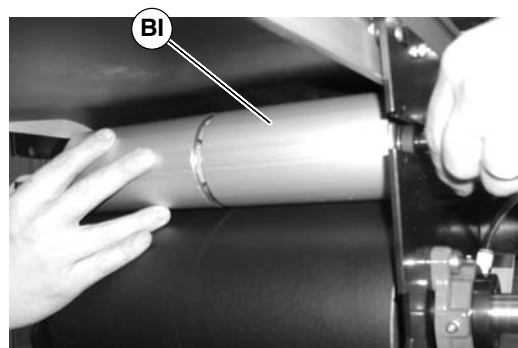

Figure 30
10. Slide out tensioning roller (BI of Figure 30).